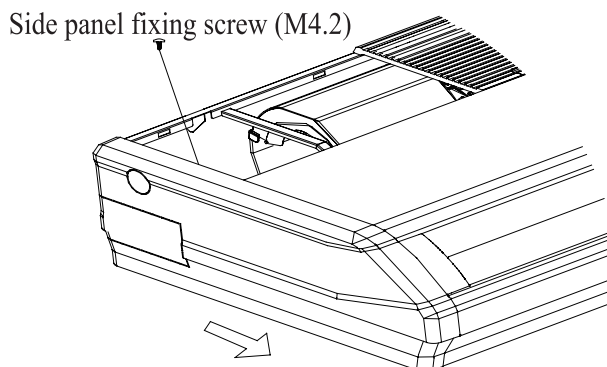

Fig. 42
- ② Remove the side panel fixing screws and remove it away by pulling it out at the front direction (arrow direction). (See Fig.42)